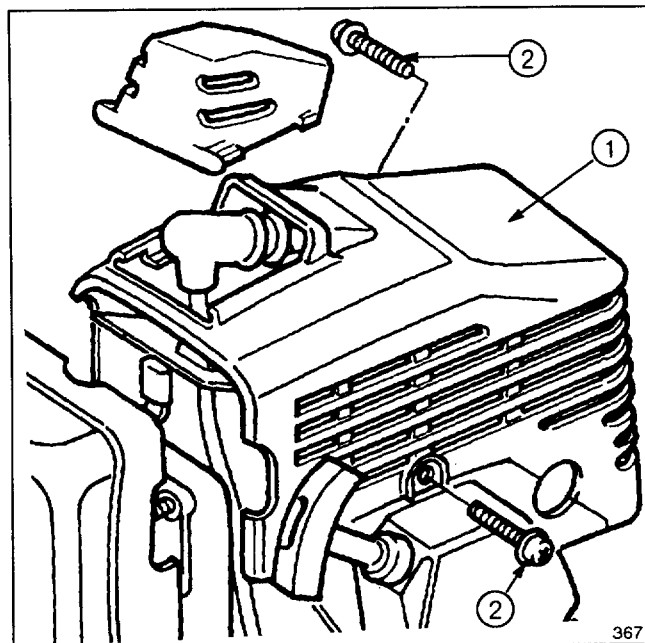

Figure 15
## SERVICING MUFFLER (Figs. 15 & 16)
1. Remove two (2) screws securing engine cover to trimmer (Fig. 15).
1. Drain gasoline from fuel tank. Remove spark plug cover by squeezing sides together and slide off engine cover (Fig. 15). Pull wire off spark plug.